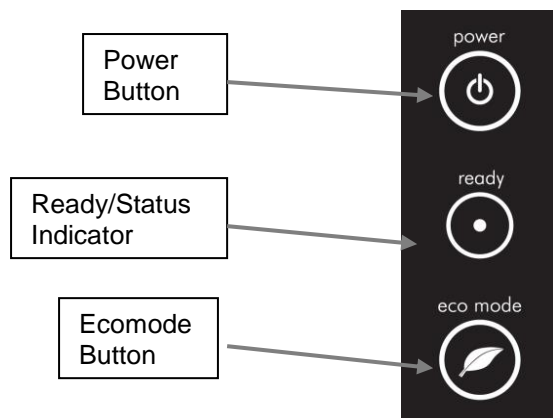

Figure 1: Machine User Interface
- Switch the machine on by pressing the power button on the front of the machine marked 'Power'. Refer to Figure 1.